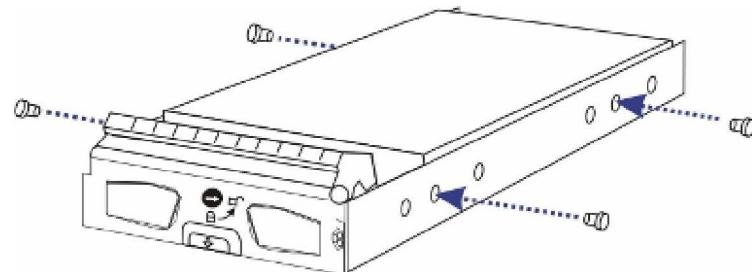

Figure 2-4: Fastening Four Hard Drive Retention Screws
Step 4. *Insert four (4) supplied 6/32 flat-head retention screws* to secure the drive. (See *Figure 2-4*)